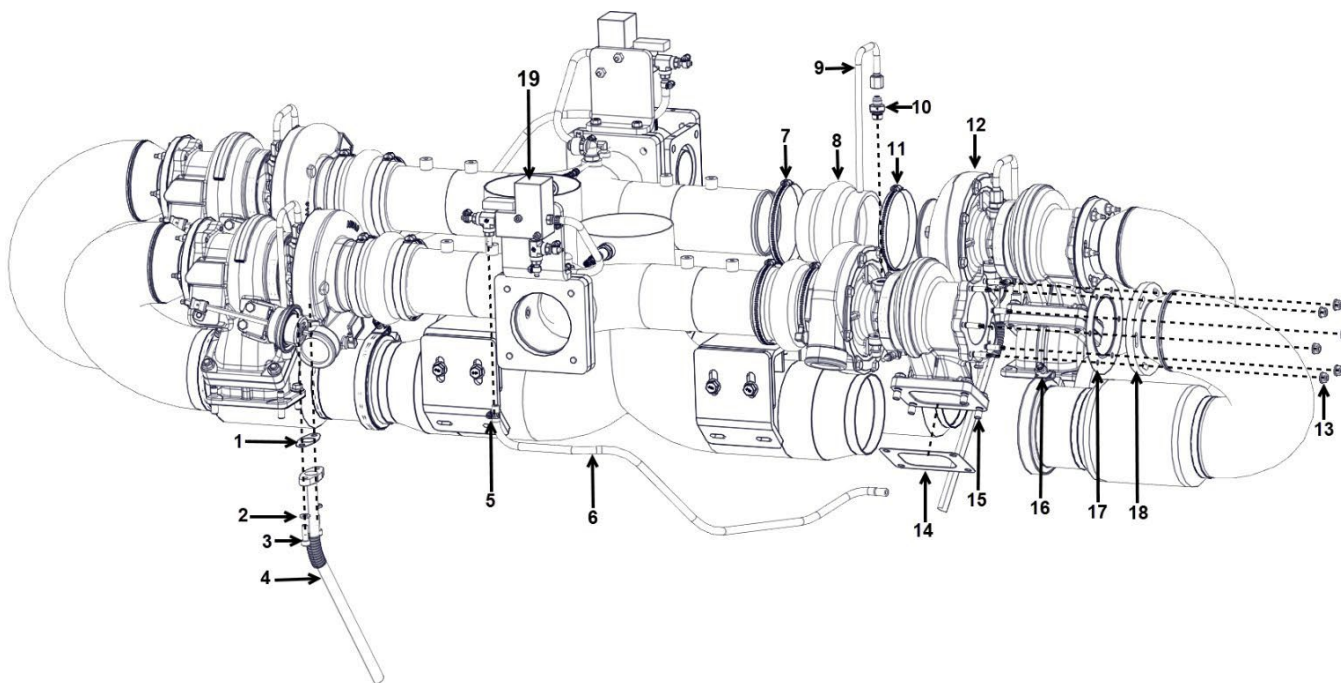

Figure 25. Turbocharger Assembly
2. Loosen and remove all oil supply lines (Figure 25, Item 9) from the top of each turbocharger.
3. Loosen and remove all oil inlet valves (Figure 25, Item 10). (If Necessary)
4. Loosen and remove all bolts and washers (Figure 25, Items 3 & 2) from the oil drain tubes (Figure 25, Item 4).
5. Remove all oil drain tubes and gaskets (Figure 25, Items 4 & 1).
7. Remove all clamps and vacuum hoses (Figure 25, Items 5 & 6) from the electronic boost controller (Figure 25, Item 19).
8. Remove the 6 bolts (Figure 25, Item 13) from the end of each turbo.
9. Loosen the clamp (Figure 25, Item 16) and remove the hose and gasket (Figure 25, Items 18 & 17).
10. Loosen both clamps (Figure 25, Items 7 & 11) for all turbochargers.
11. Remove the hose (Figure 25, Item 8) for all turbochargers.
12. Remove the four bolts (Figure 25, Item 15) from the bottom of all turbochargers.
14. Remove all gaskets (Figure 25, Item 14) from the bottom of the turbocharger.
2. Place new turbocharger gaskets (Figure 25, Item 14) over the four studs on the ends of all the exhaust manifolds.
3. Install all turbochargers (Figure 25, Item 12) over the gaskets (Figure 25, Item 14).
4. Install the four bolts (Figure 25, Item 15) and torque to 40 ft/lbs.
10. Place gasket (Figure 25, Item 1) onto the bottom of all turbos and place the oil drain tube (Figure 25, Item 4) onto the bottom end of the turbos.
11. Apply PSI approved 242 Loctite to both oil drain tube bolts (Figure 25, Item 3).
12. Insert the washers and bolts (Figure 25, Items 2 & 3) and torque down the oil drain tube bolts (Figure 25, Item 3) to 30 ft/lbs.
14. Place the oil supply line (Figure 25, Item 9) onto the top of all oil inlet valves (Figure 25, Item 10) and torque down the oil supply line to 30 ft/lbs.
16. Insert all clamps and hoses (Figure 25, Items 7, 8 and 11) to the end of the turbochargers.
17. Insert the gaskets (Figure 25, Item 17) on the 6 bolts on the end of all turbos.
18. Insert the hose (Figure 25, Item 18) onto the end of the turbochargers.
19. Insert and torque down the 6 nuts (Figure 25, Item 13) to 20 ft/lbs.
20. Insert the opposite end of the hose (Figure 25, Item 18) onto the open end and torque down the clamp (Figure 25, Item 16) to secure the hose.
21. Insert the vacuum line (Figure 25, Item 6) using the clamp (Figure 25, Item 5) onto the electronic boost controller (Figure 25, Item 19) and insert the opposite end of the vacuum line (Figure 25, Item 6) onto the wastegate.